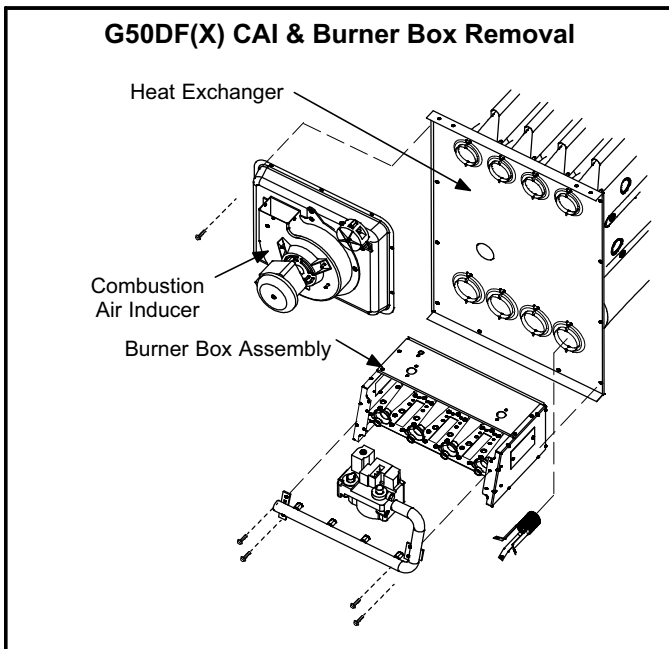

FIGURE 26
- 7 - Remove the four screws that secure the combustion air inducer. Carefully remove the combustion air inducer to avoid damaging the blower gasket. If the gasket is damaged, it must be replaced to prevent leakage. See figure 26.